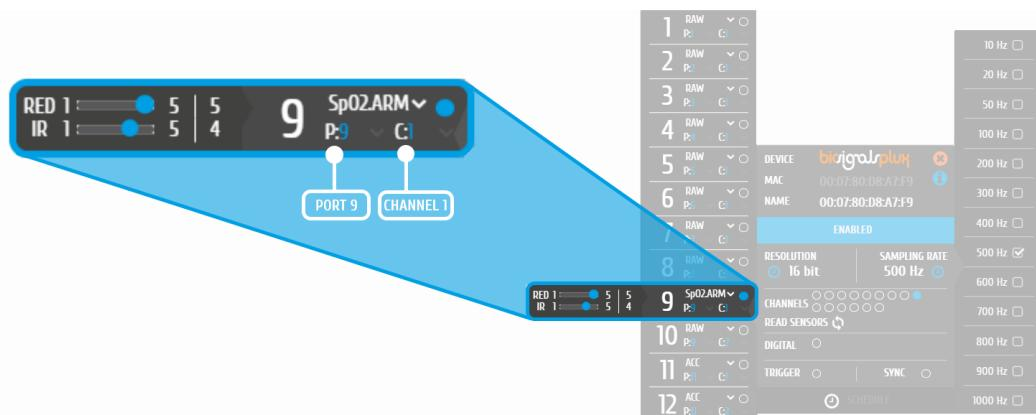

Figure 171: Port and channel number for SpO2 sensor.
Then set up channel 9 for signal acquisition, set the port (P) to 9 and the channel (C) to 1 (Figure 171) and select one of the available SpO2 options in the channel's dropdown menu (if the correct option was not assigned with the **READ SENSORS** command).